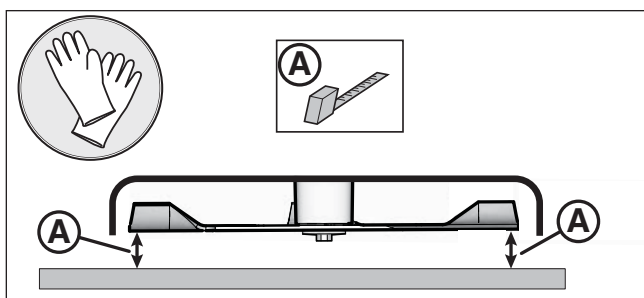

Figure 49. Checking the Blade Height Adjustment
7. See Figure 49. Position the outside mower blades so they face front-to-back.